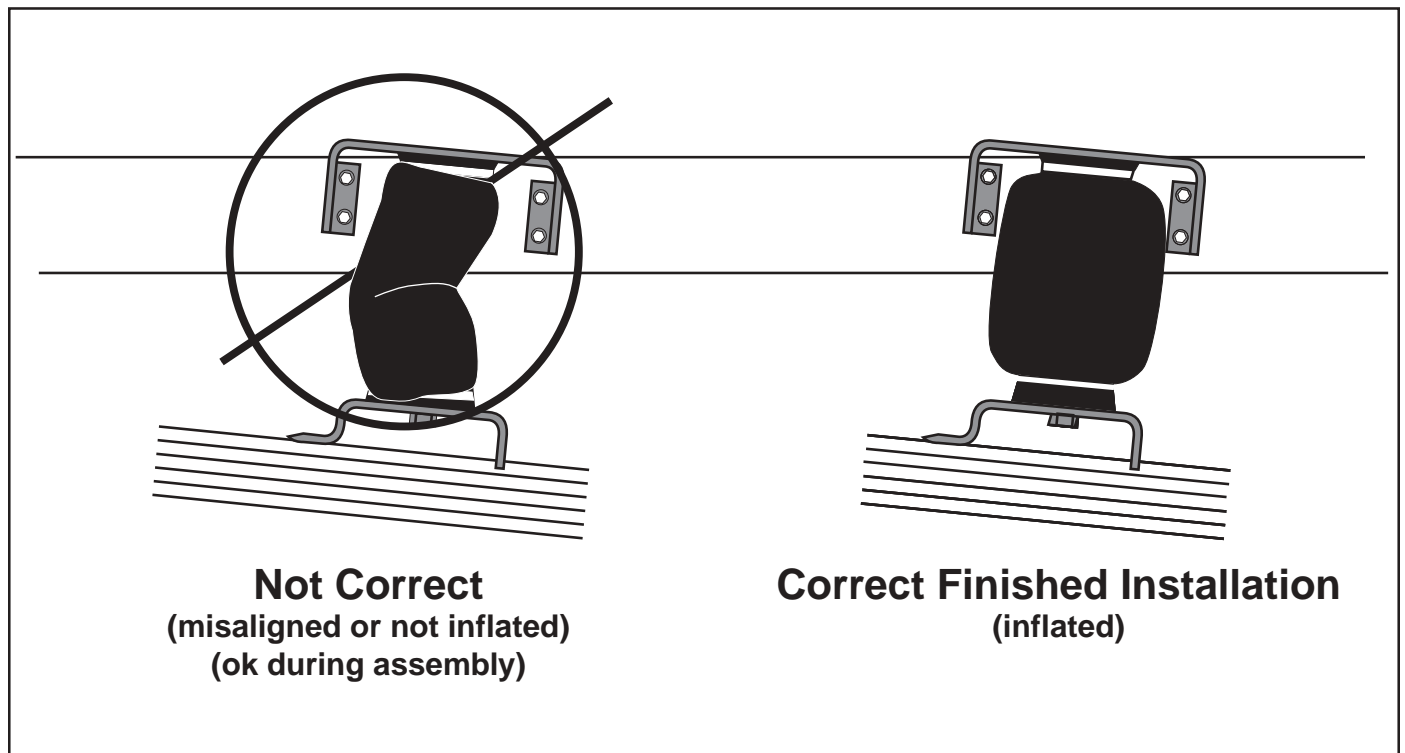

Figure 7
1. With the bottom still loose, inflate the air spring to approximately 10 PSI By using the slotted adjustment in the lower bracket, align the air spring so that there is a symmetrical cushion of air around the lower base. This can be accomplished by pressing all around the air spring and tapping it inboard and outboard for proper alignment (Figure 7).